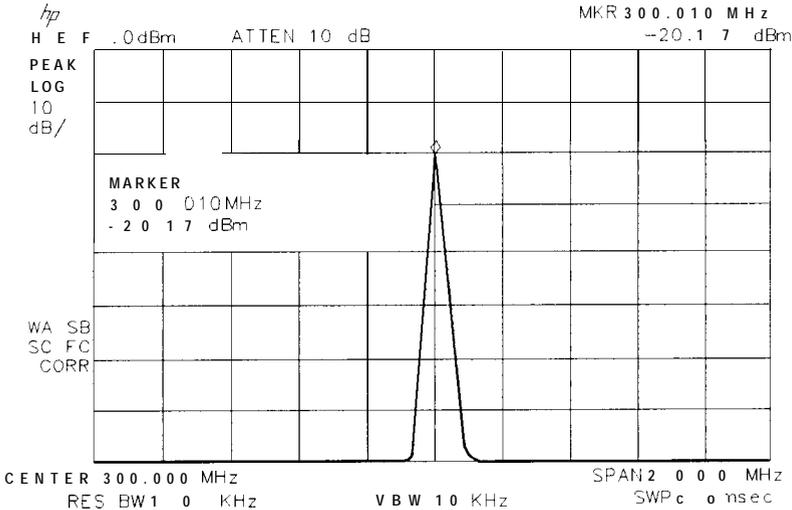

Figure 2-6. Reading the Amplitude and Frequency
5. Determine the amplitude and frequency of the signal. You can either press (PEAK_SEARCH) or press (MKR) and move the marker to the signal peak. Read the amplitude and frequency. The display screen should look like the one in Figure 2-6. Frequency is displayed horizontally, and amplitude (power) is displayed vertically.